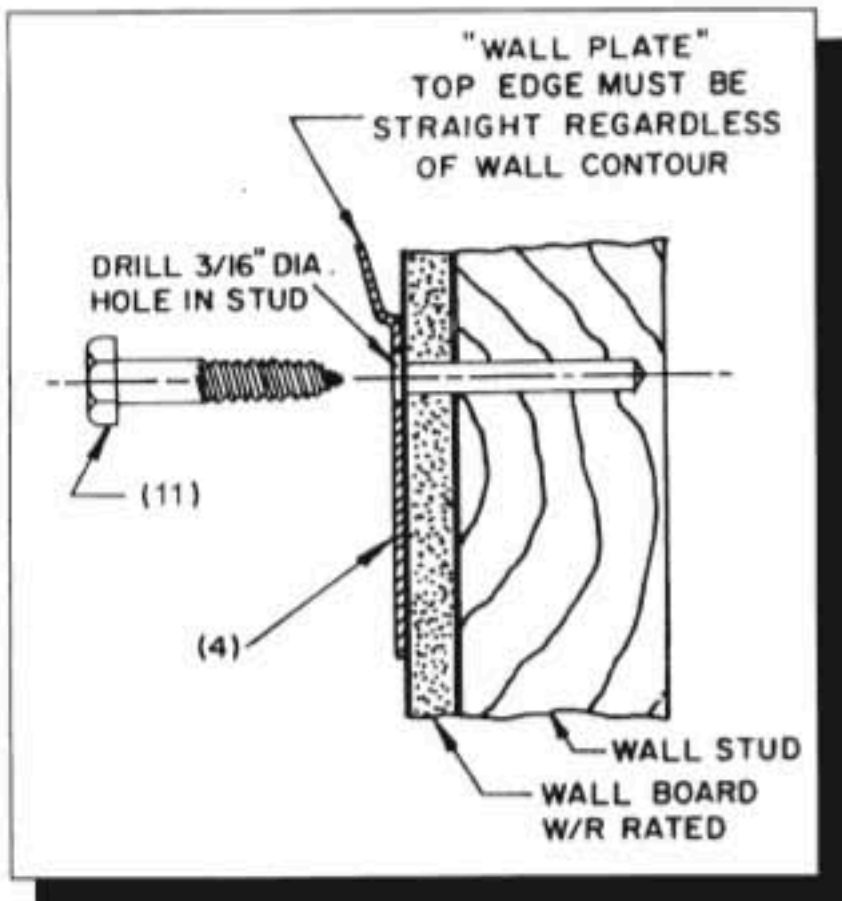
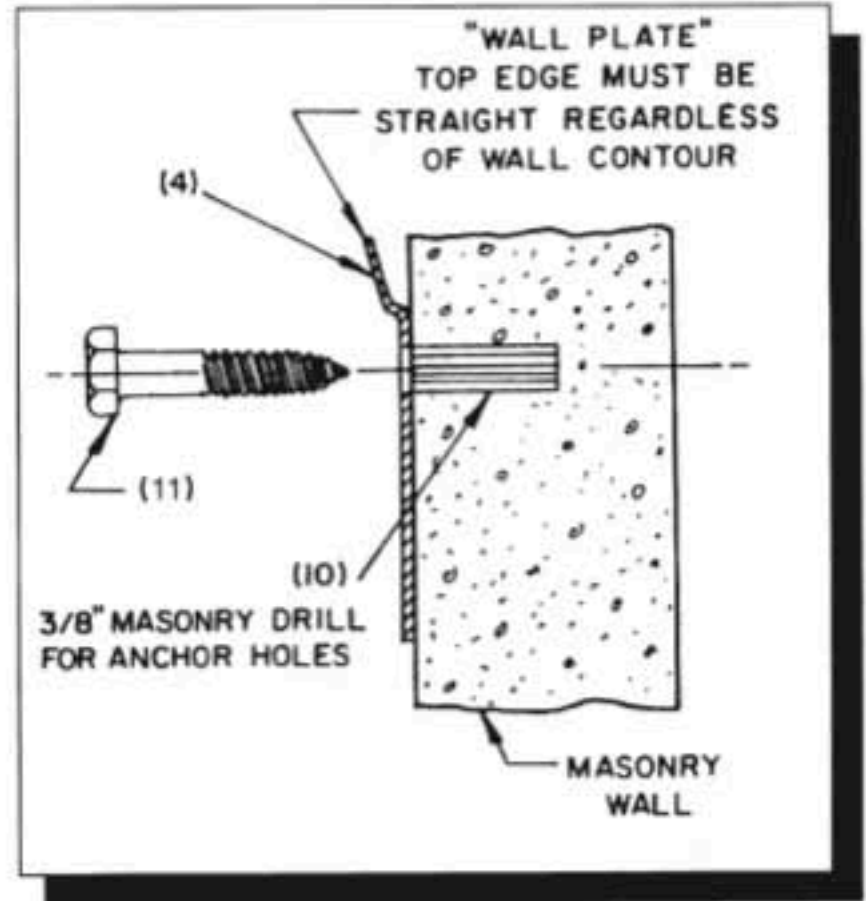

FIGURE 2.
FIGURE 3.
Note: Holes in Wall Plate are positioned to align with studs on 16" center when the center hole of the Wall Plate is located in the middle of a 2" x 4" wall stud. If studs are not evenly spaced, use the 2" x 6" braces as required to mount Wall Plate securely. With top edge of plate level, mark and drill 3/16" diameter holes into studs or braces as required. See Figure 2. (If mounting into cement or concrete, drill holes for five [5] Anchors (10) as shown in Figure 3.) Mount Wall Plate using the Lag Screws (11) supplied. Re-check top edge of plate for level before tightening bolts. Be sure top edge of plate is straight regardless of wall contour; if not, shim as required to obtain this condition.